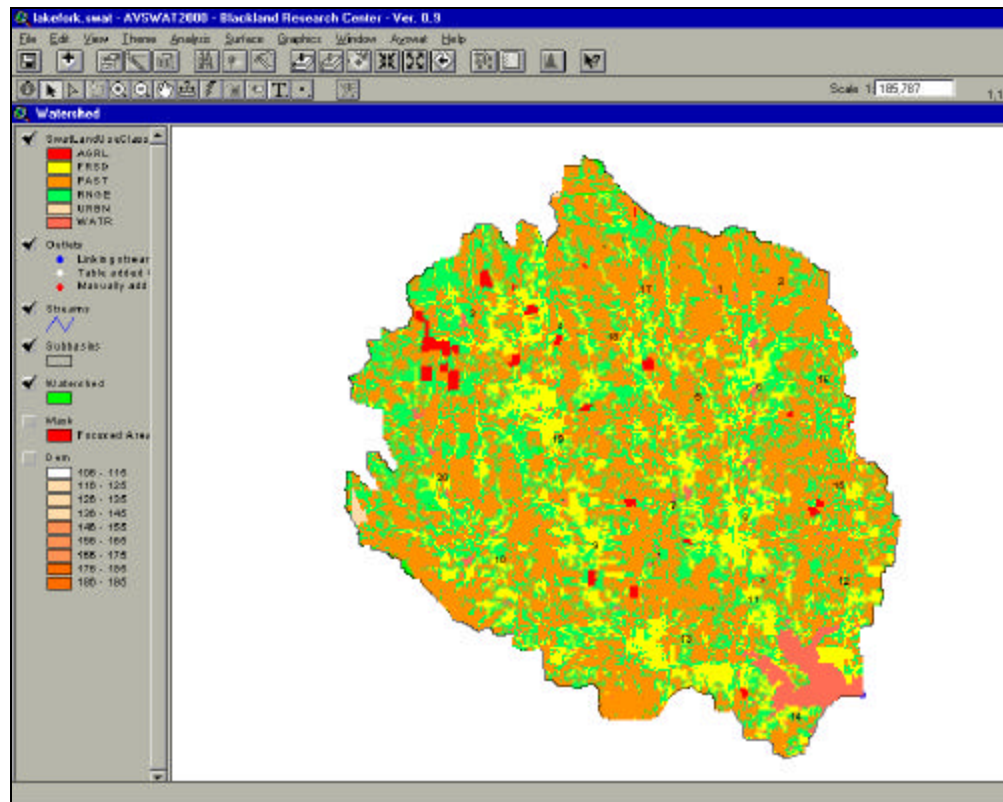

Figure 15.31
14. The category display for the map will show the SWAT land use codes (Figure 15.31).